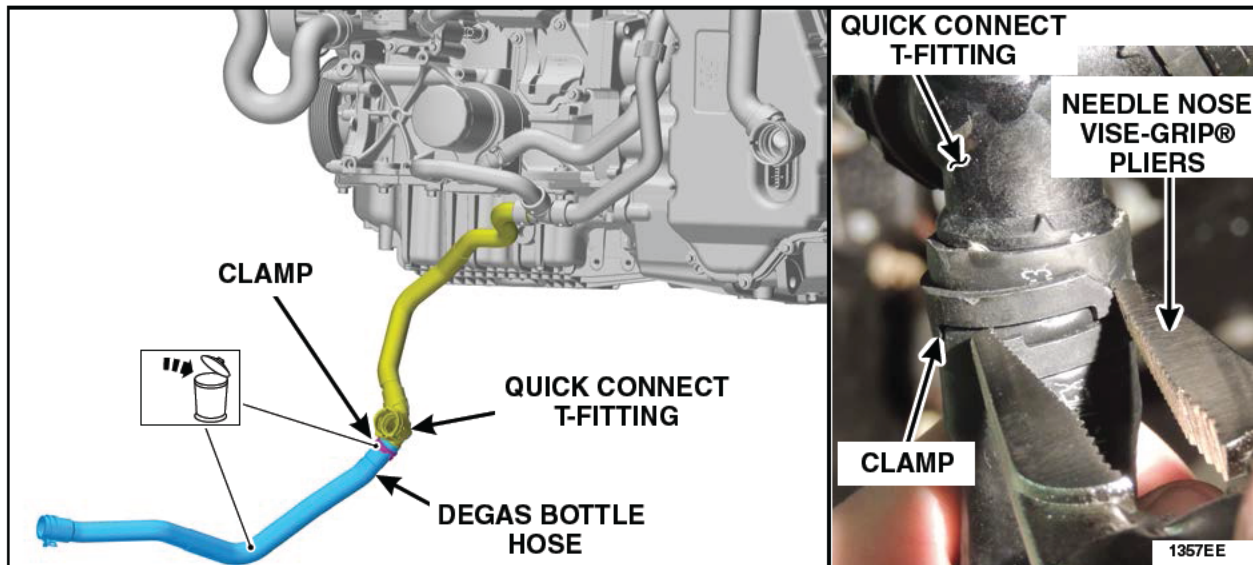

FIGURE I4
4. Position the degas bottle hose downward out the bottom of the engine compartment. See Figure I4.
5. Use a pair of needle nose VISE-GRIP® pliers to compress the degas bottle hose clamp and slide the clamp downward off of the quick connect T-fitting. See Figure I4.
6. Remove and discard the degas bottle hose and clamp. See Figure I4.